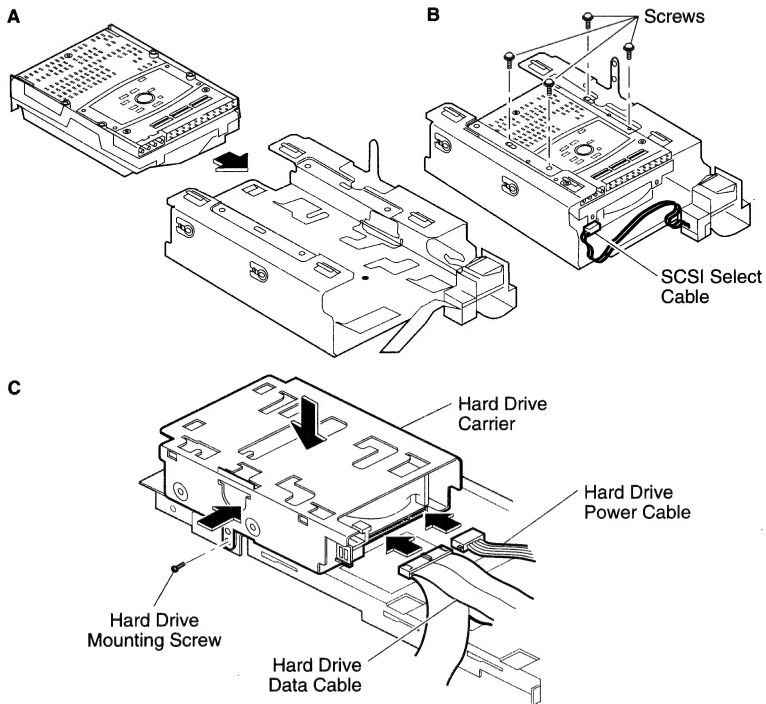

Figure 5 Installing a SCSI Device
4. Install the SCSI device in the drive carrier as shown in Figure 5. Be sure to connect the SCSI select switch. Also, verify that the device is not terminated.